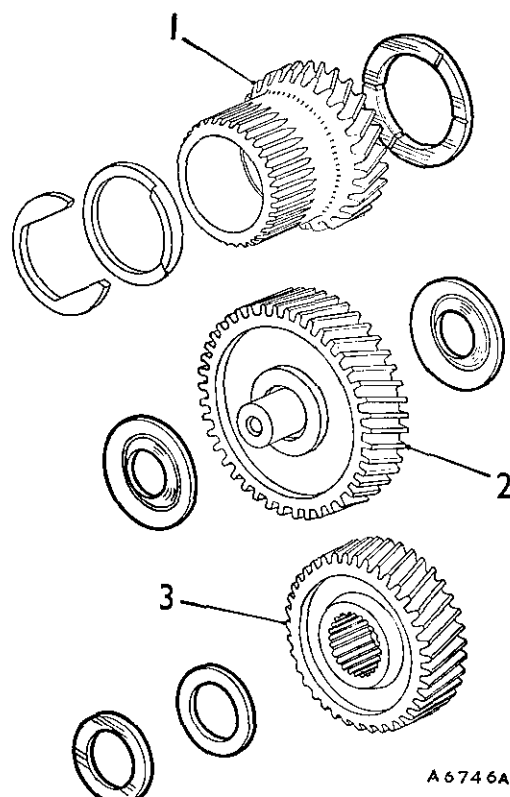
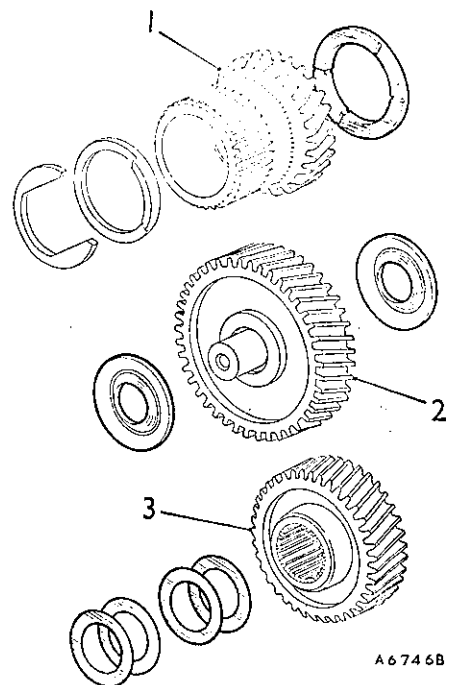

Fig. Aa.14
Fig. Aa.19
NOTE.—Two types of input gears have been used, those fitted to earlier units have two thrust washers (Fig. Aa.14). The later gear (of increased hub thickness) has a number of thin shims fitted to the outer hub face of the gear for adjustment (see Fig. Aa.19).
- (29) (a) Fit one washer on each side of the idler gear as calculated in item (27).
- (b) Fit two washers to make up the calculated thickness onto the input gear shaft. Both washers must be fitted to the outside of the input gear (see Fig. Aa.14), with the chamfered inside edge of one washer towards the gear.
- (38) (a) Fit the required thickness of shims as calculated in item (36) onto the outside of the input gear (see Fig. Aa.19).
- (b) Fit one washer on each side of the idler gear (see Fig. Aa.19) as calculated in item (37).